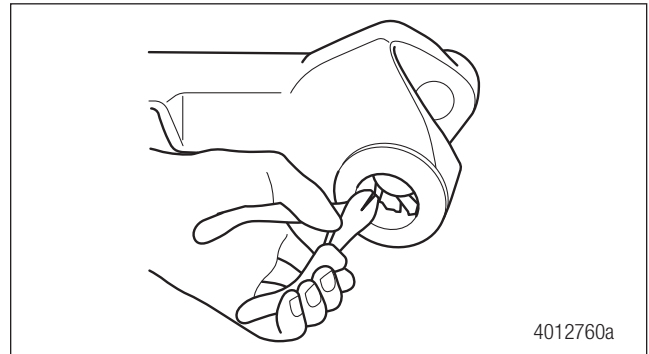

Figure 8.2
4. If required, remove the upper and lower king pin bushings. To facilitate removal, locate the king pin bushing seam and fold it over. Pull the edge with an appropriate tool. Figure 8.2.